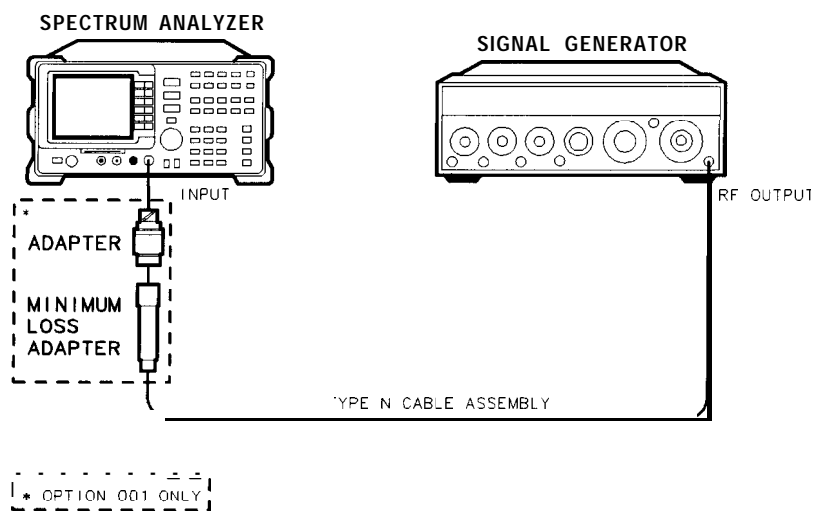

Figure 1-3. Noise Sidebands Test Setup
- Connect the equipment as shown in Figure 1-3.